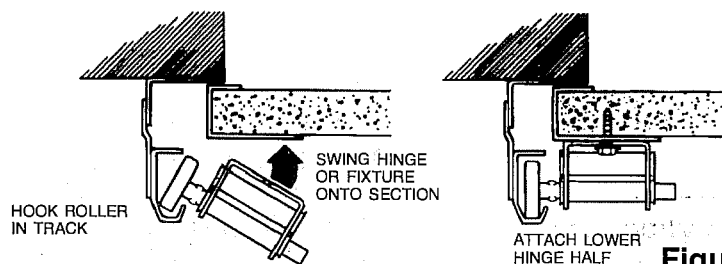

Figure 8
3. Insert rollers into corresponding loose end hinge. Hook roller into track and swing end hinge onto door section. See Figure 8.